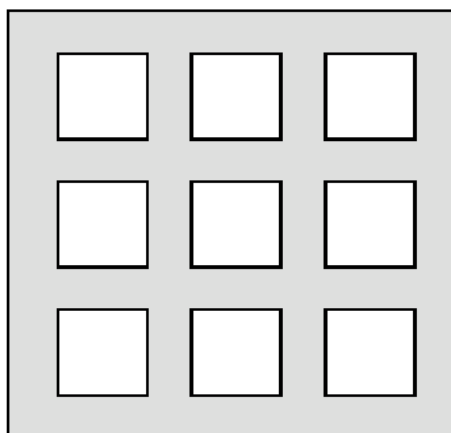

Figure 24: Solder paste application on exposed pad
3. For the PCB thermal pad, solder paste should be printed on the PCB by designing a stencil with an array of smaller openings that sum to 50% of the QFN exposed pad area. Solder paste should be applied through an array of squares (or circles) as shown in Figure 24.